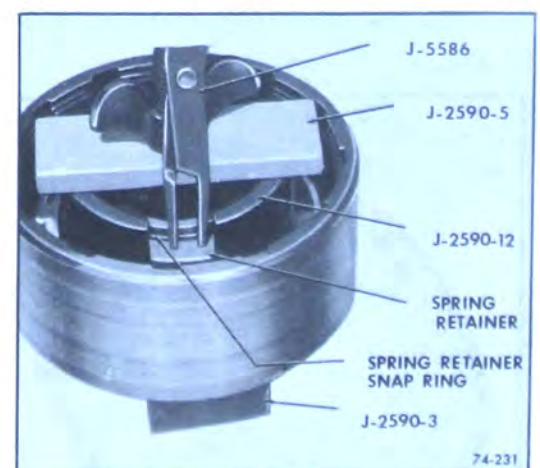

Figure 74-216
7. Using Tools J-2590-3, J-2590-5 and J-2590-12 compress spring retainer. Remove snap ring. See Figure 74-216. Then remove Tool J-2590 and component parts, being careful that